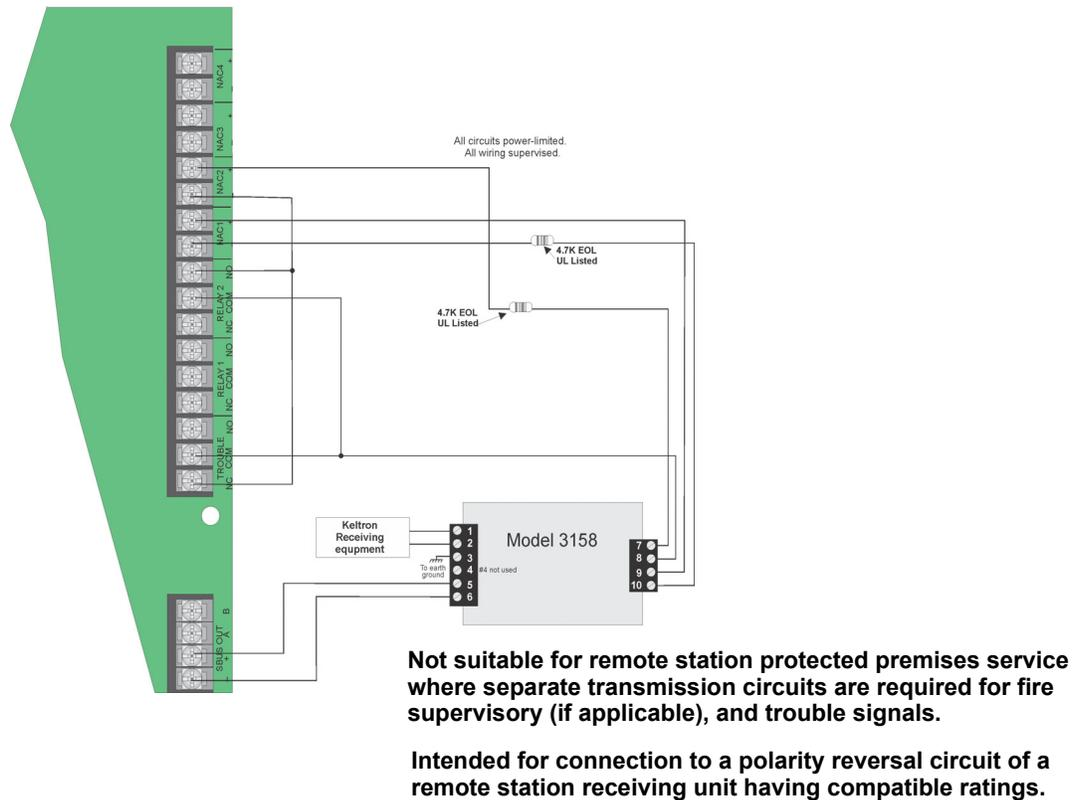

Figure 4.43 Keltron 3158 Connection to Control Panel
1. Wire the 3158 to the control panel as shown in the connection list and Figure 4.43.